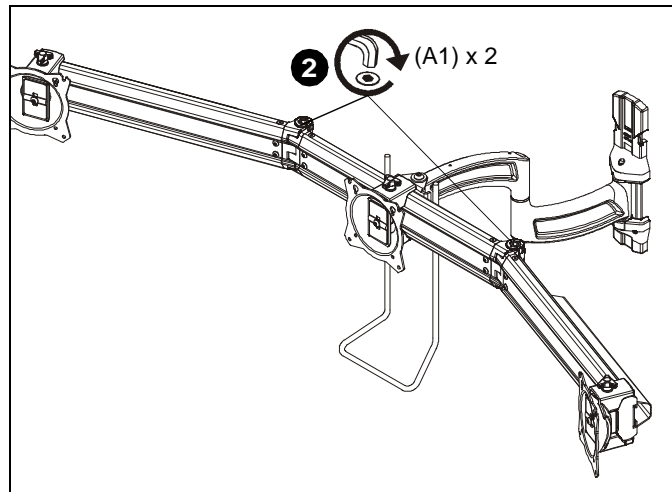

Figure 19
- Array arms may pivot toward the front of mount up to 20° per arm. (See Figure 19)
- When arms are at desired pivot position, lock pivot position by tightening 3/8-16 x 2 3/4" socket head carriage screws (A1) using 5/16" hex key (E5). (See Figure 19)